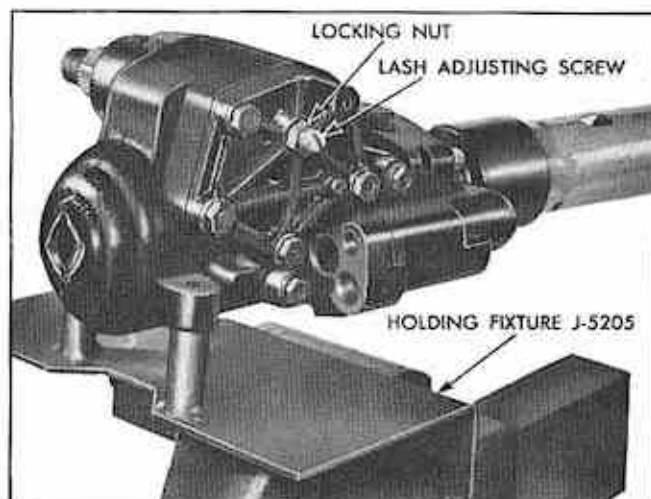

Fig. 51 Steering Gear Mounted on Tool J-5205
1. Mount unit on holding fixture J-5205 (Fig. 51).